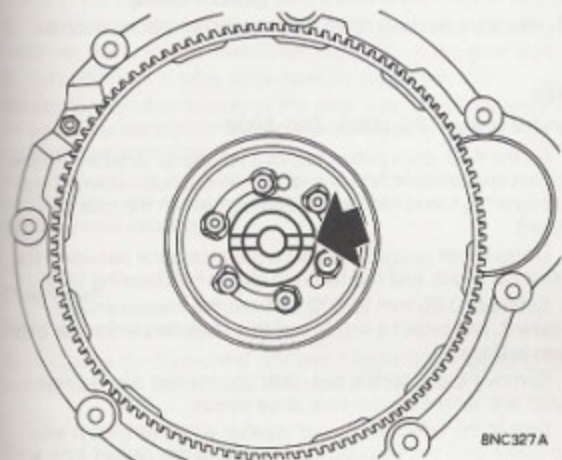

Fig 9
7. Remove the converter cover, ensure that the slot in the crankshaft is in the horizontal position shown in Fig. 9 and remove the converter retaining bolt using tool 18G 587.